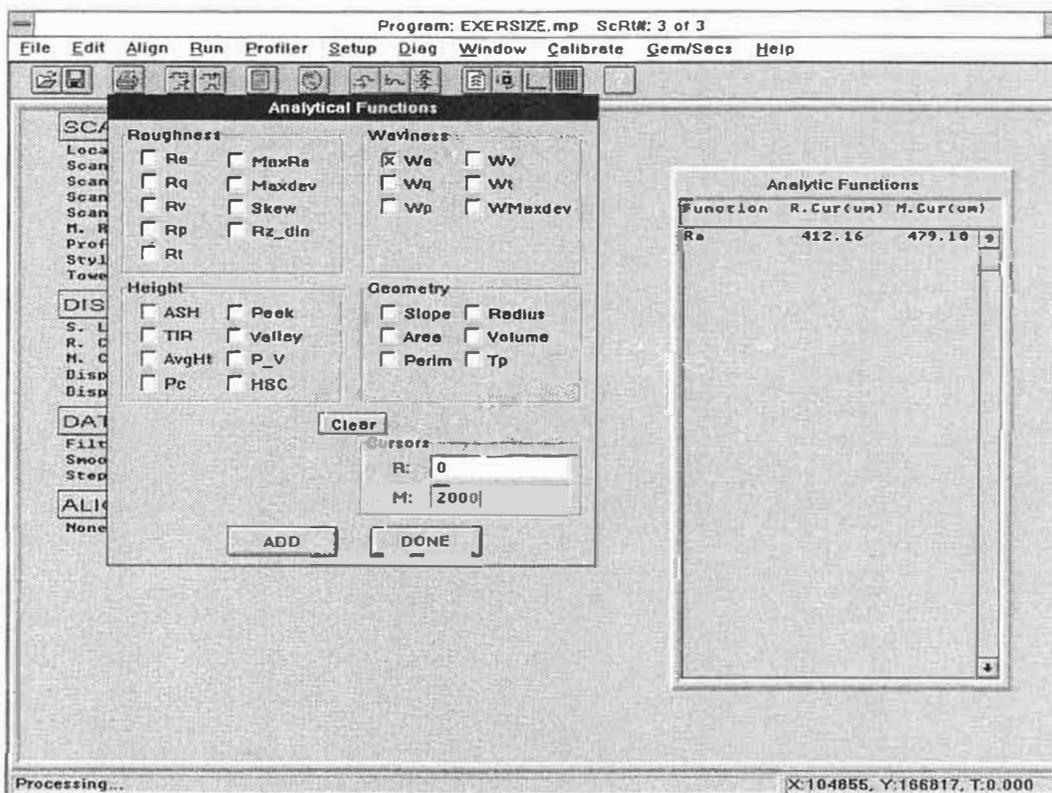

Figure 6-6. Analytical Functions/Scan Routine Screen Entry
3. Click-on the "Measure and Program" button provided in the Roughness Functions window (see Figure 6-6).